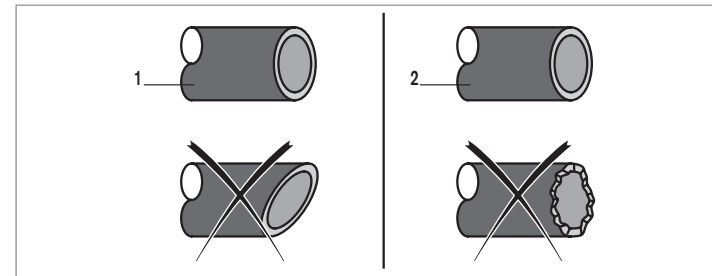

Fig. 12: Pipe cut and deburred
- Cut the pipe squarely [1] and deburr [2]. See Fig. 12.